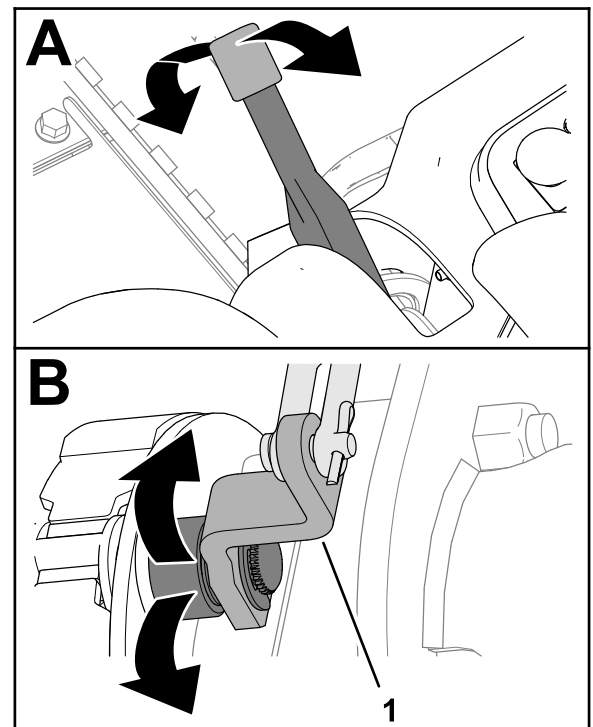

Figure 81
2. Move the parking brake lever up and down to check that the lever for the brake-cam lever moves freely (Figure 81).